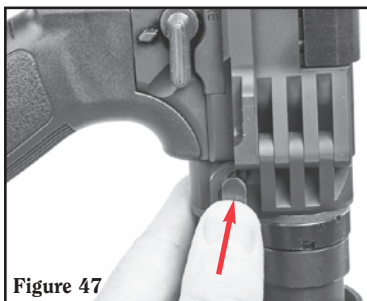

Figure 47
7. **To remove the bolt:** Close the bolt and push the folding stock release button (see Figure 47).